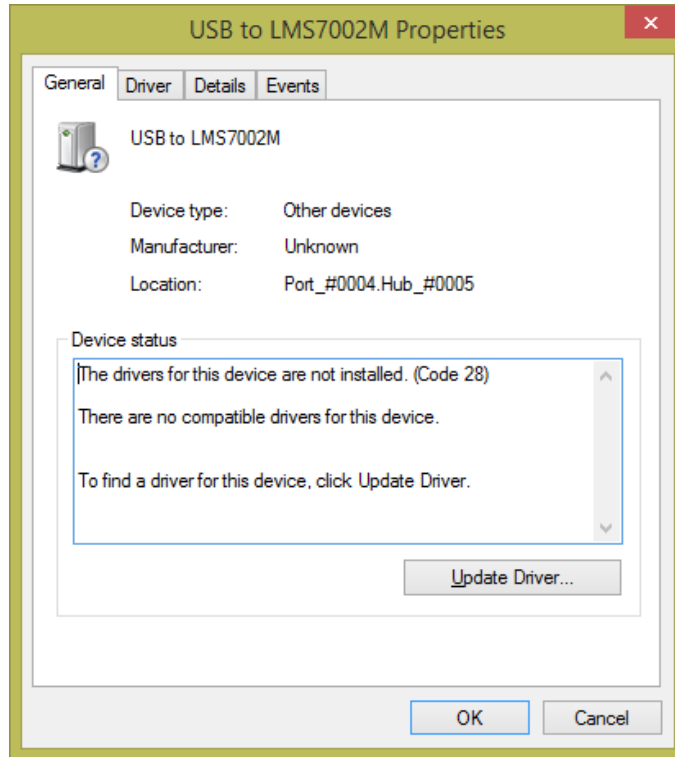

Figure 4 Device properties
4. When a new window pops-up press **Update driver** *Figure 4*